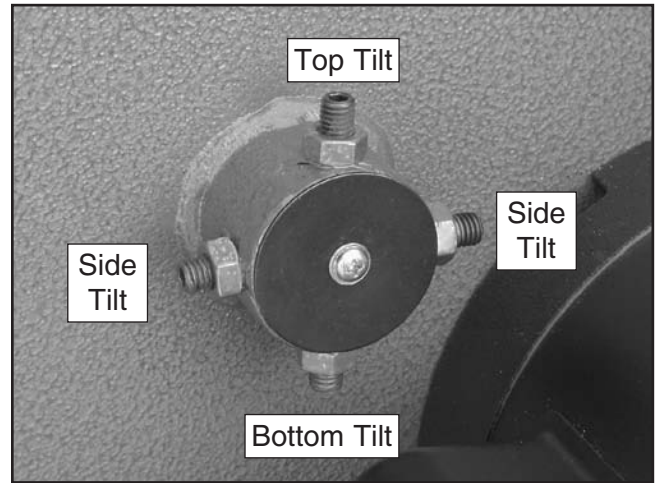

Figure 65. Lower wheel adjustment control.
7. If the wheels will go parallel but not coplanar, then move the lower wheel at the adjustment hub (**Figure 65**) as necessary.